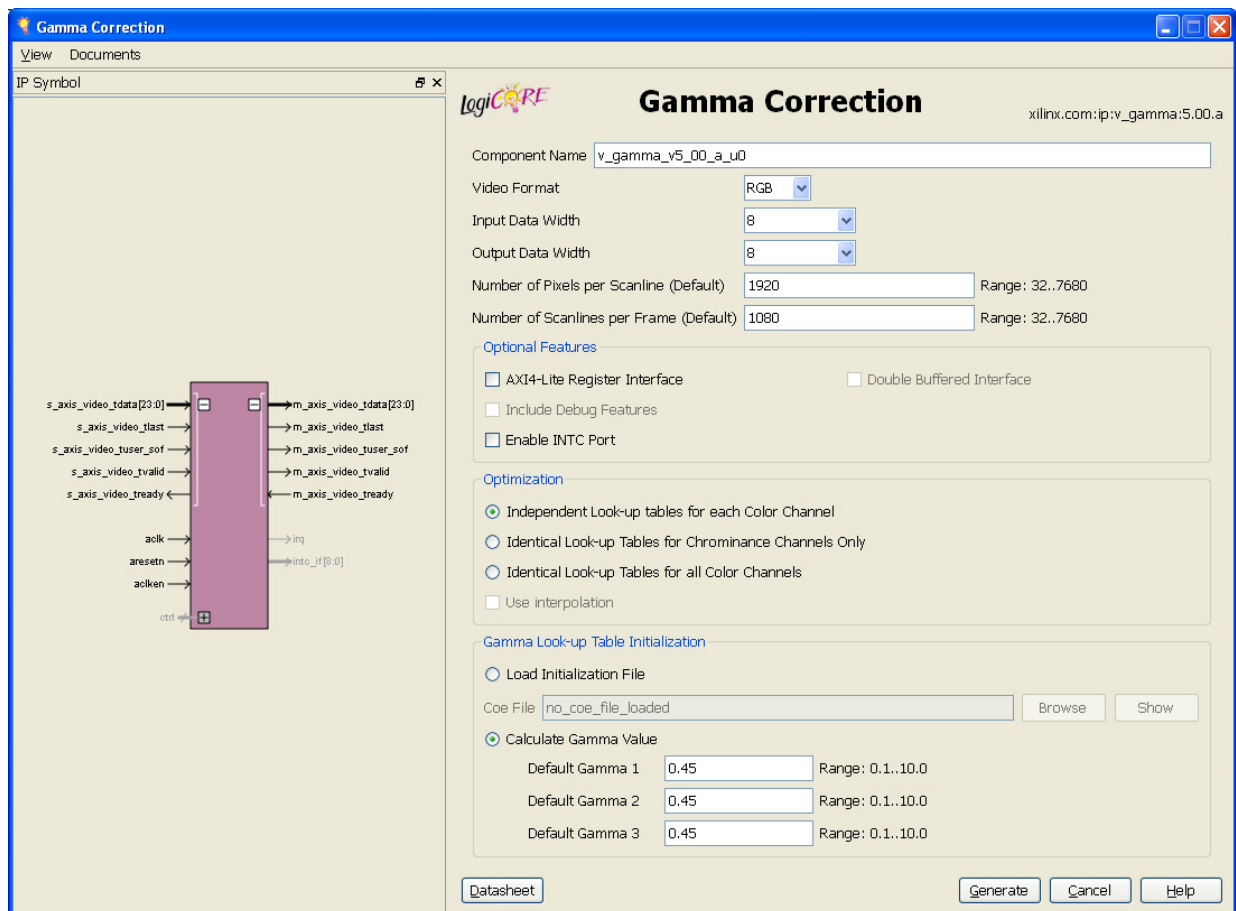
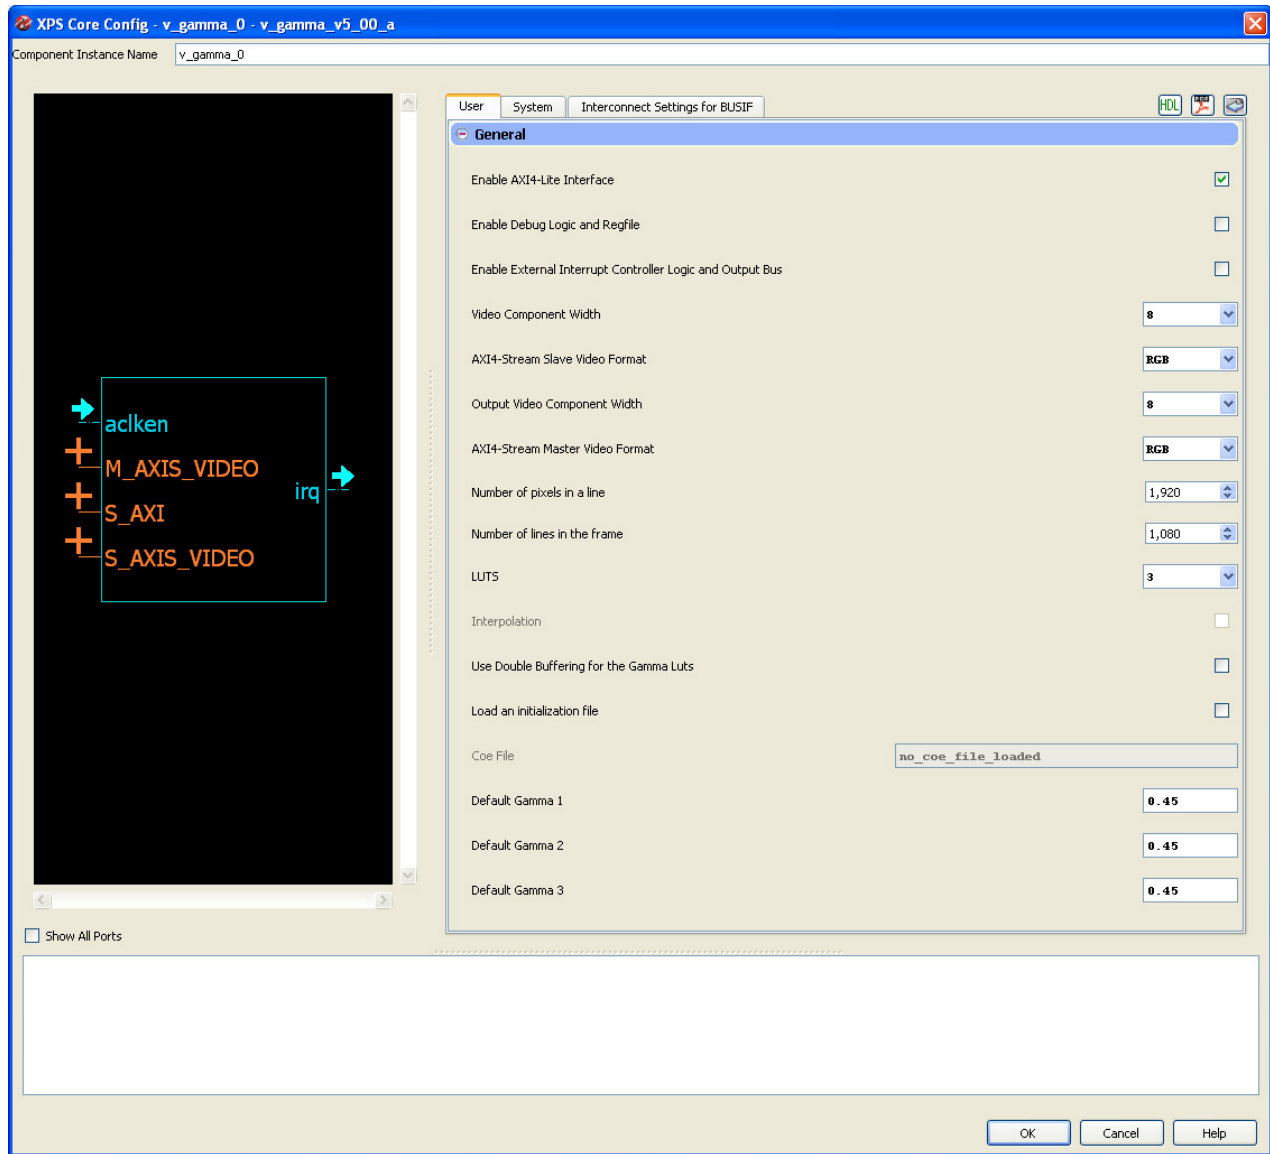

Figure 3-1: Gamma Correction Main Screen
Figure 3-2: Gamma Correction EDK Screen
The Gamma Correction core is easily configured to meet the user's specific needs through the CORE Generator or EDK GUI. This section provides a quick reference to parameters that can be configured at generation time. Figure 3-1 shows the main CORE Generator Gamma Correction screen. Figure 3-2 shows the main EDK Gamma Correction screen.
Figure 3-1 shows the main Gamma Correction EDK screen.
**Note:** When `ACLKEN` (clock enable) pins are used (toggled) in conjunction with a common clock source driving the master and slave sides of an AXI4-Stream interface, to prevent transaction errors the `ACLKEN` pins associated with the master and slave component interfaces must also be driven by the same signal (Figure 3-2).